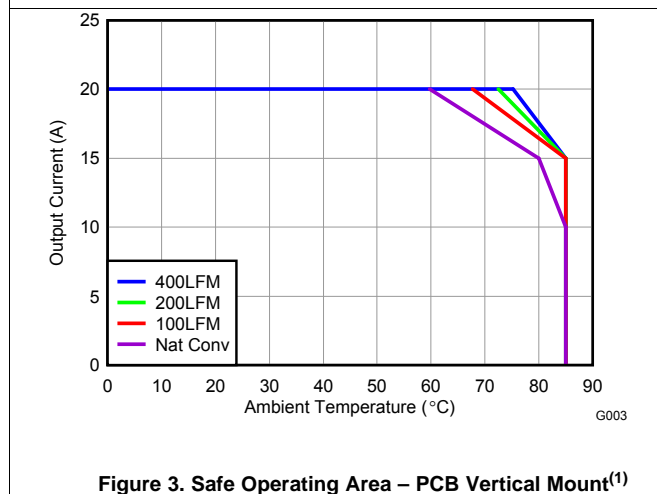

Figure 3. Safe Operating Area – PCB Vertical Mount(1)
The SOA curves in the CSD86330Q3D data sheet provides guidance on the temperature boundaries within an operating system by incorporating the thermal resistance and system power loss. **Figure 3** to **Figure 5** outline the temperature and airflow conditions required for a given load current. The area under the curve dictates the safe operating area. All the curves are based on measurements made on a PCB design with dimensions of 4" (W) x 3.5" (L) x 0.062" (T) and 6 copper layers of 1 oz. copper thickness.